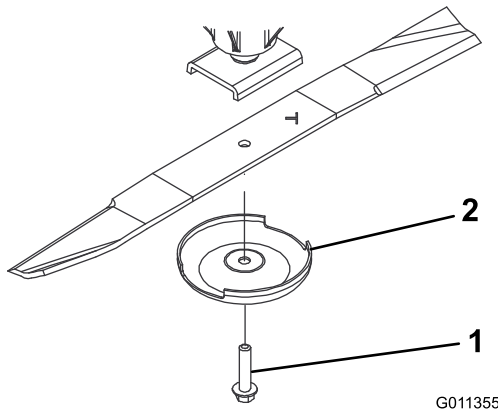

Figure 69
2. Grasp the end of the blade using a rag or thickly padded glove. Remove the blade bolt, anti-scalp cup, and blade from the spindle shaft (Figure 69).
3. Install the blade, sail facing toward the cutting deck, with the anti-scalp cup and blade bolt (Figure 69). Tighten blade bolt to 115–149 N-m (85–110 ft-lb).